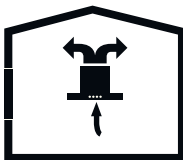

Fig. 5: Air Circulation with Carbon Filter
*Absorbed air is cleaned by the grease filters and an active carbon filter, and then it is transferred back to the kitchen. Fig. 5*